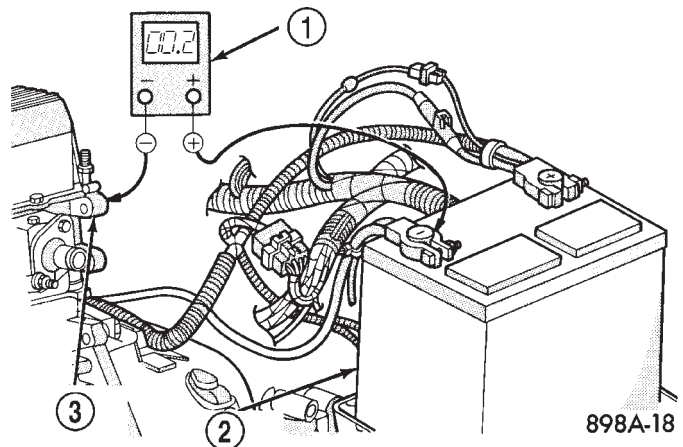

Fig. 24 Test Ground Circuit
(4) Connect the voltmeter to measure between the battery negative cable terminal clamp and a good clean ground on the engine block (Fig. 24). Rotate and hold the ignition switch in the Start position. Observe the voltmeter. If the reading is above 0.2 volt, clean and tighten the battery negative cable eyelet terminal connection to the engine block. Repeat the test. If the reading is still above 0.2 volt, replace the faulty battery negative cable.